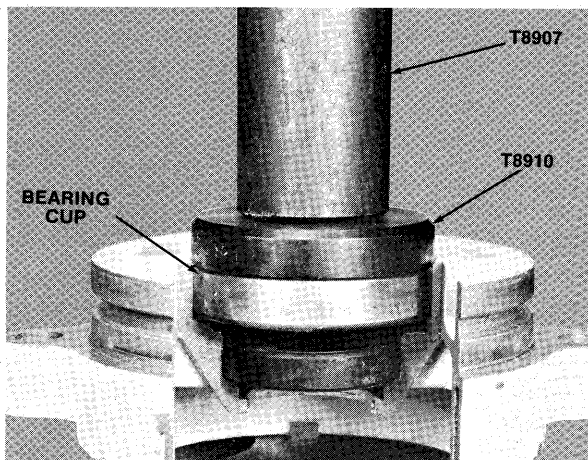

Figure 20—Installing Bearing Cup
- B. Install proper thickness of shims determined in Section XIV, paragraph 7-2. Install bearing cup in bearing cage using cup installer (Special Tool T8910) with driver handle (Special Tool T8907) as shown in figure 20.